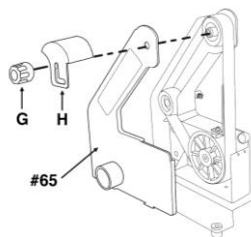

Fig. 4
1. Remove the belt guard locking knob (G) and then remove the upper belt guard (H) and side belt cover (#65) (Fig. 4).
10. Assemble the upper belt guard (H) and side belt cover (#65) then secure in place with the belt guard locking knob (G) (Fig. 4).